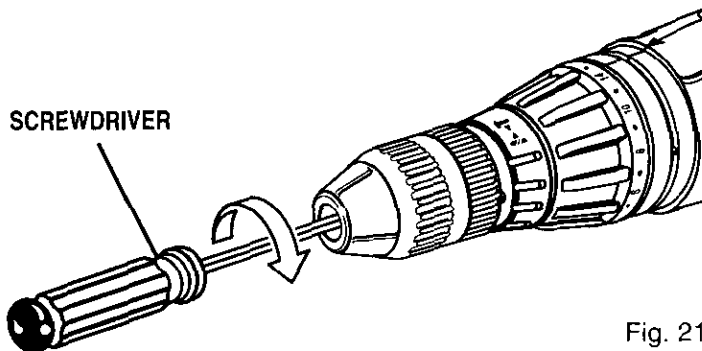

Fig. 21
- Open chuck jaws and remove wrench. Remove the chuck screw by turning it in a clockwise direction. See Figure 21.